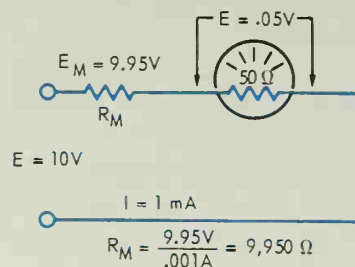

Fig. 7-6. Computation of a multiplier resistor for use of the 0-10 volt range of the voltmeter.
2. Compute R_M by using Ohm's Law and check it against the circuit in Fig. 7-6.